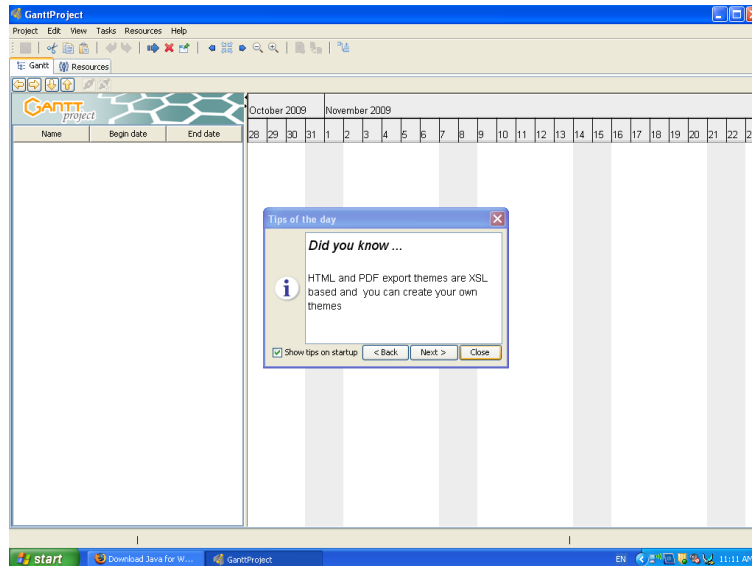

Figure 4.11:GanttProject application window.
1. Double-click the GanttProject icon to display the GanttProject application window as illustrated in figure 4.11.